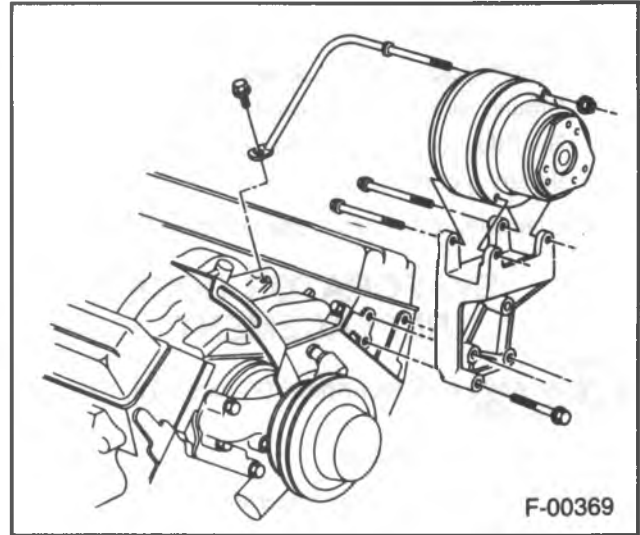

Figure 81 — P-Truck 5.7L Engine Compressor Installation
2. Compressor Installation — refer to figures 81 and 82.